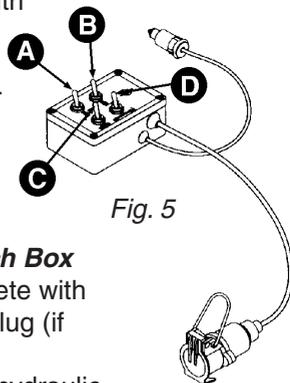

Fig. 5
- Activate switch (A) (Fig. 5) upwards and hold to unfold left hand boom (Holding the switch in the down position will fold the boom). To unfold right hand boom, activate switch (B) (Fig. 5).
2. Activate switch (C)(Fig. 5) upwards and hold to tilt left hand boom up. (Holding the switch in the down position will tilt the boom down.) To tilt the right-hand boom activate switch (D)(Fig. 5).